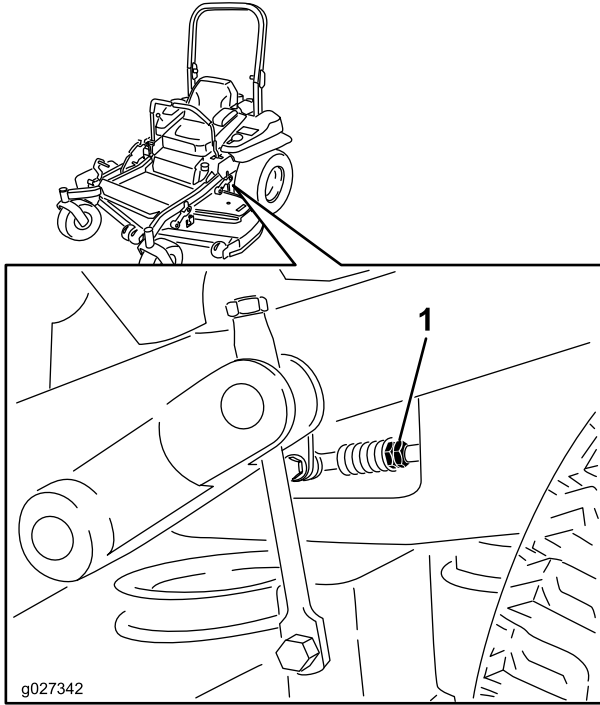

Figure 86
- Adjust the pump control rod lengths by rotating the double nuts on the rod in the appropriate direction until the wheels slightly creep in reverse (Figure 86).